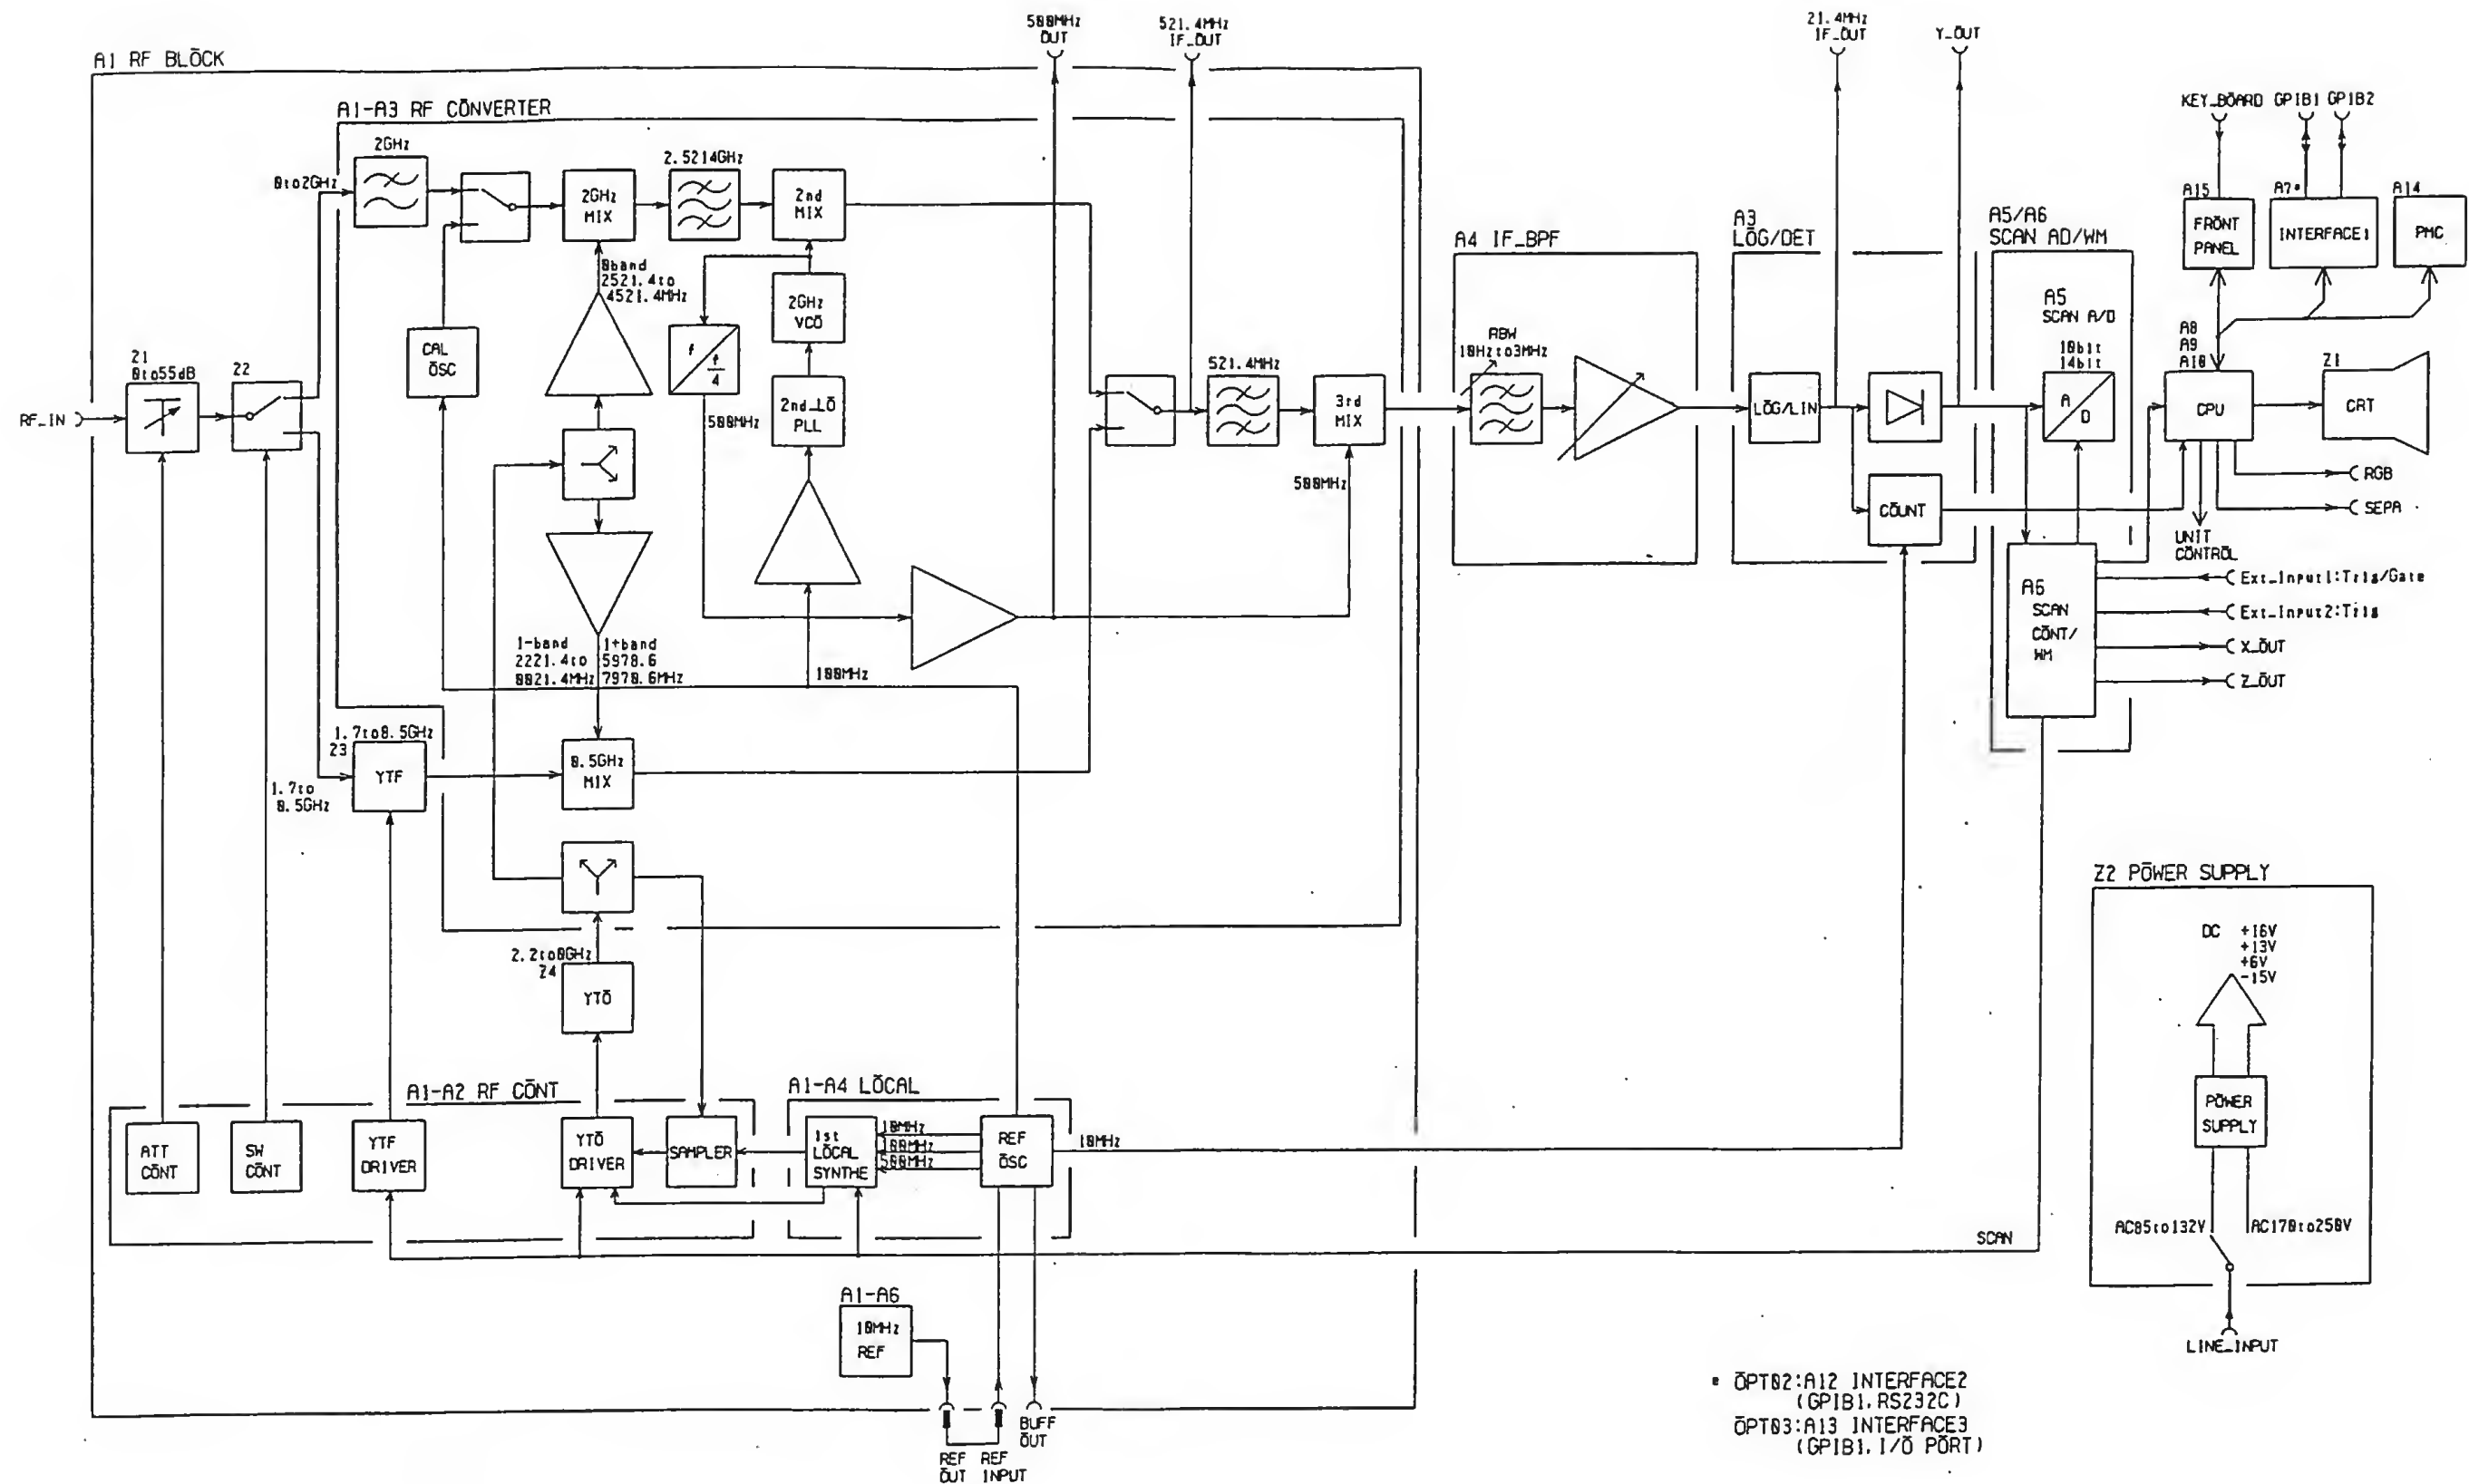

Fig. 2-1 MS2602A Overall Block Diagram
Please refer to Fig. 2-1 (P2-3) Overall Block Diagram.
[MAIN CPU], [MEAS CPU] and [DISP CPU] have each one CPU, and configure the multi-processor system through a common bus and common RAM. (Refer to Fig.2-1) The [INTERFACE (1), INTERFACE (2), or INTERFACE (3)] is connected to the [MAIN CPU] I/O bus. The [FRONT PANEL] is connected with COMMON bus.